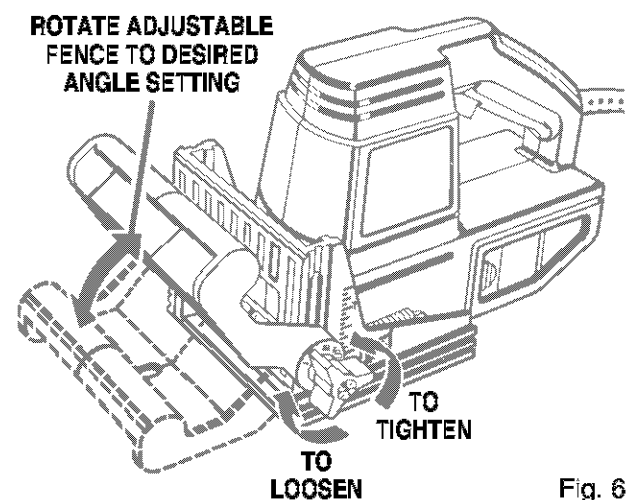

Fig. 6
See Figure 6.
- Tighten height adjustment knobs securely. See Figure 6.